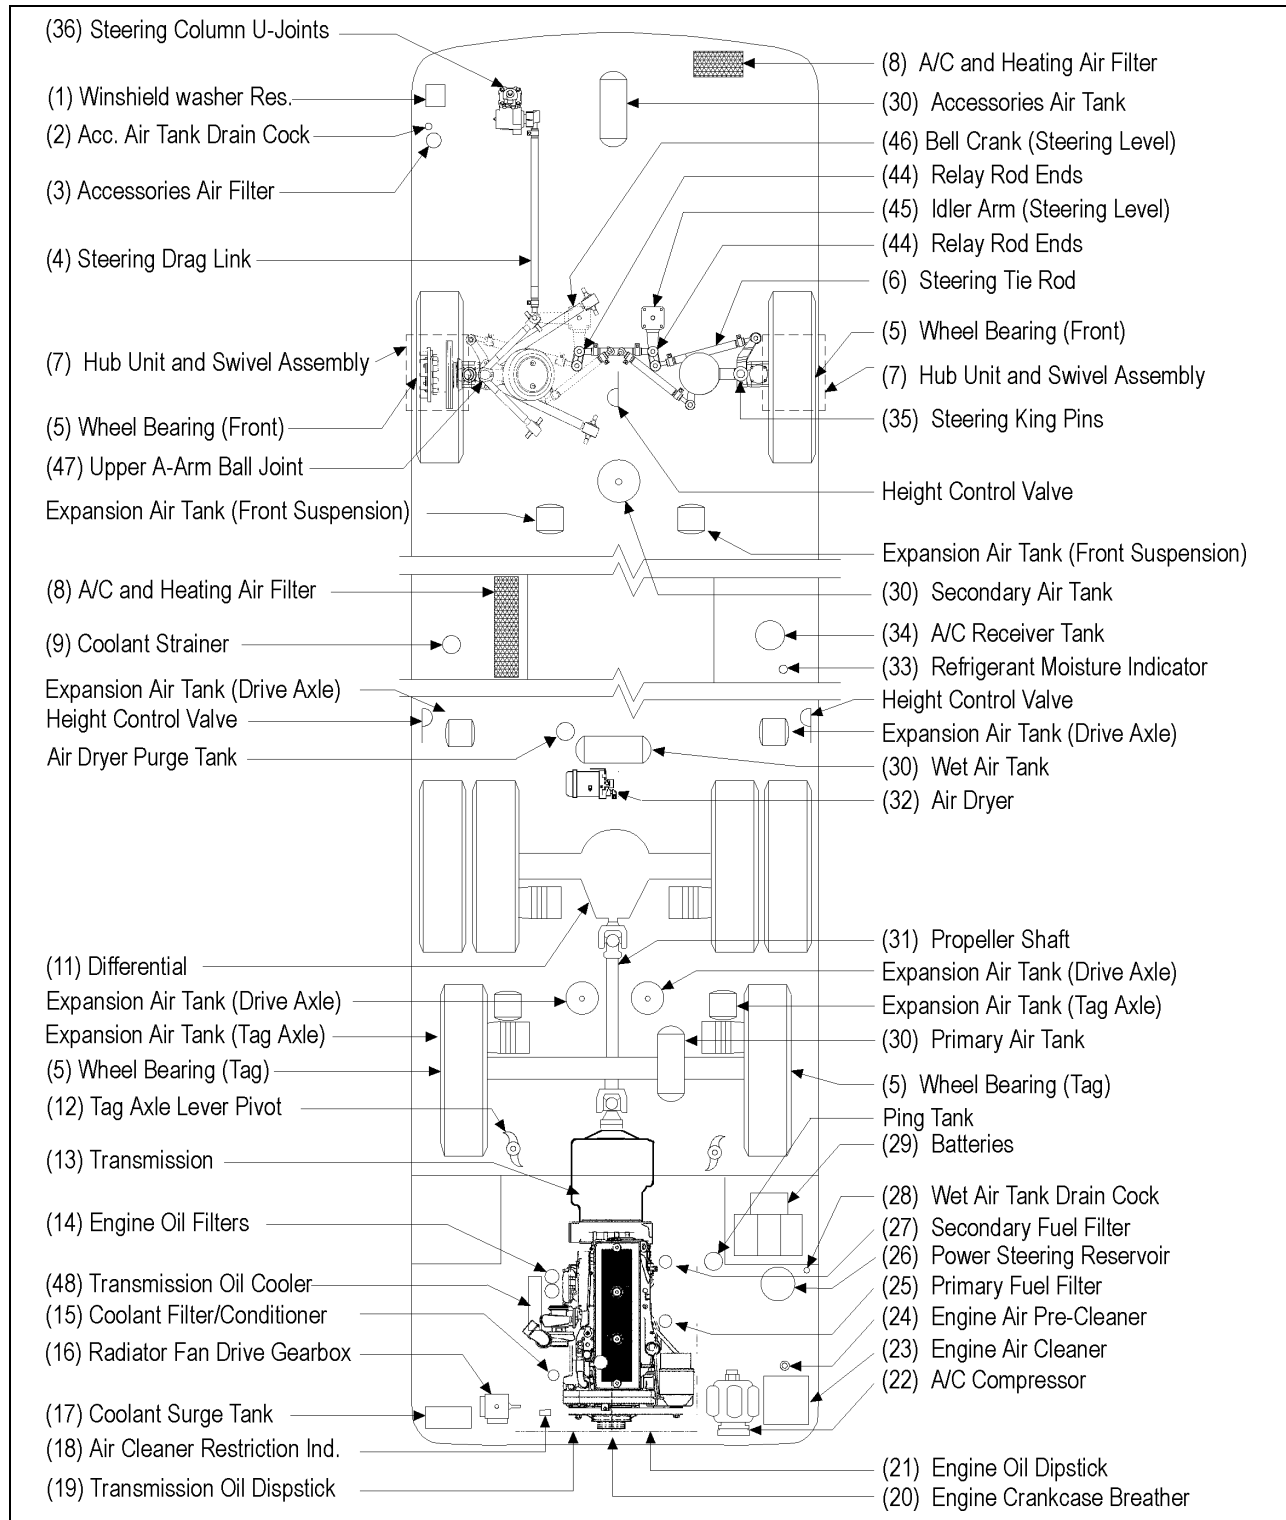

FIGURE 3: LUBRICATION AND SERVICING POINTS ON VIP MODEL (TYPICAL)
- FIGURE 3: LUBRICATION AND SERVICING POINTS ON VIP MODEL (TYPICAL) 24-6